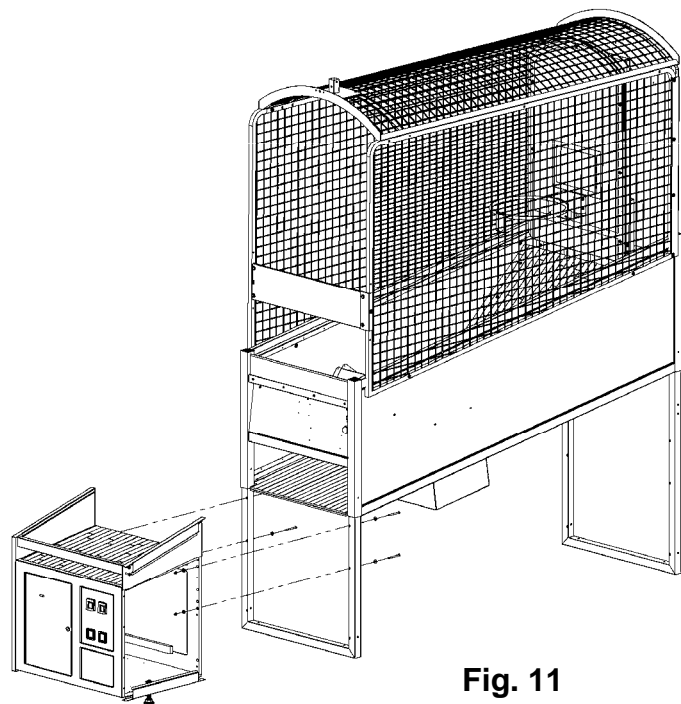

Fig. 11
Remove the rear door from the Front Cabinet to allow easier access to the mounting hardware. Move the Front Cabinet to the front of the Rear Cabinet and bolt it to the frame by installing the mounting bolts through the back of the front legs and into the front cabinet's mounting holes. Secure with (4) 1/4-20 X 3" Hex Head bolts, (4) 1/4 flat black washers and 1/4-20 Nylock nuts. (See Fig. 11)